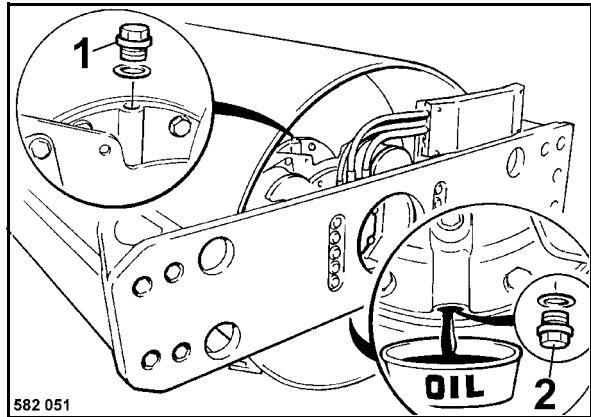

Fig. 84
- Move the drum, until the drain and filler plug 2 (Fig. 84) is in bottom position.
- Clean and unscrew the oil level inspection plug (1) as well as the drain and filler plug.